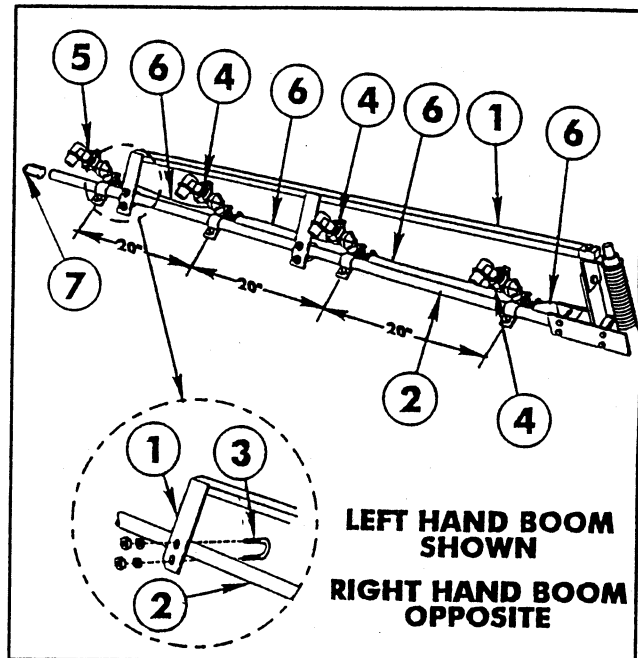

FIG. 12
13. Secure the two plates of the Boom Support Assembly to one of the Extension Boom Pipes, using two (2) 1/4" U-bolts, four (4) lock nuts and flat washers. See FIG. 12.
16. Attach three double barb and one single barb Nozzle Assemblies on each Extension Boom Pipe as shown in FIG. 12. Nozzles are to be spaced on 20 inch centers. Connect the Nozzle Assemblies with the 3/4" x 19" Jumper Hoses. Secure with hose clamps.